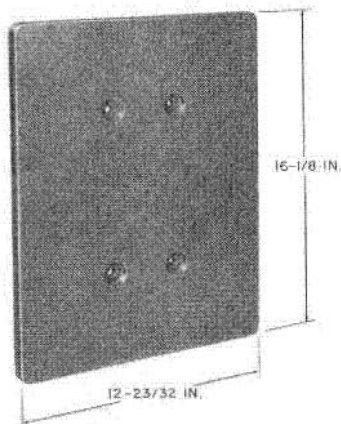

Fig. 20—173A Backboard
- 5.01 The 173A backboard (Fig. 20) is designed to mount one or two 15A apparatus mountings.